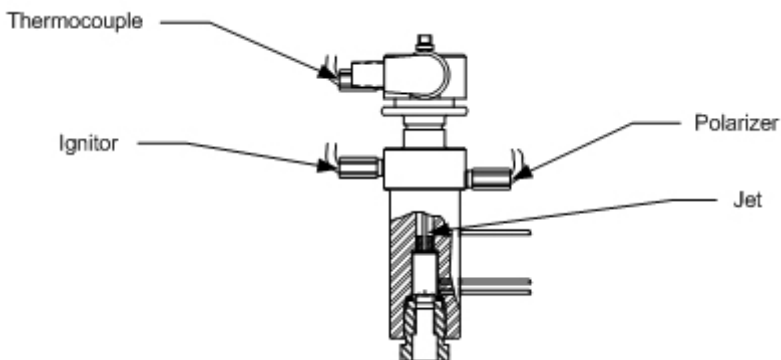

Fig. 8.10. FID Components
**8.3.6 Flame ionization detector (see Figure 8.10)**